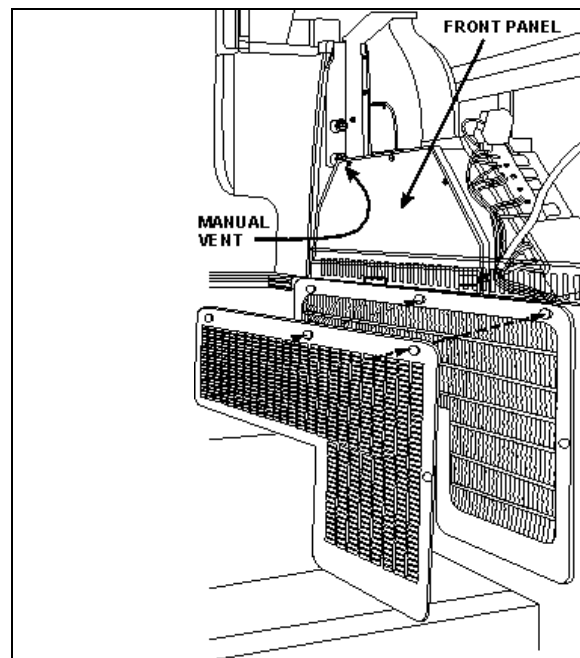

FIGURE 42: DRIVER'S HVAC UNIT
4. From inside of vehicle, remove the two finishing panels in front of unit. Remove the three screws fixing the unit front panel. Open the manual vent located inside the HVAC unit, on the driver's side (Fig. 42) to ensure an efficient draining.
Whenever the heating system has been drained and refilled, or the system has run low on coolant and coolant has been added, it is necessary to bleed air from heating system. Locate the manual vent illustrated in Figure 42, and open momentarily until no air escapes from the line.